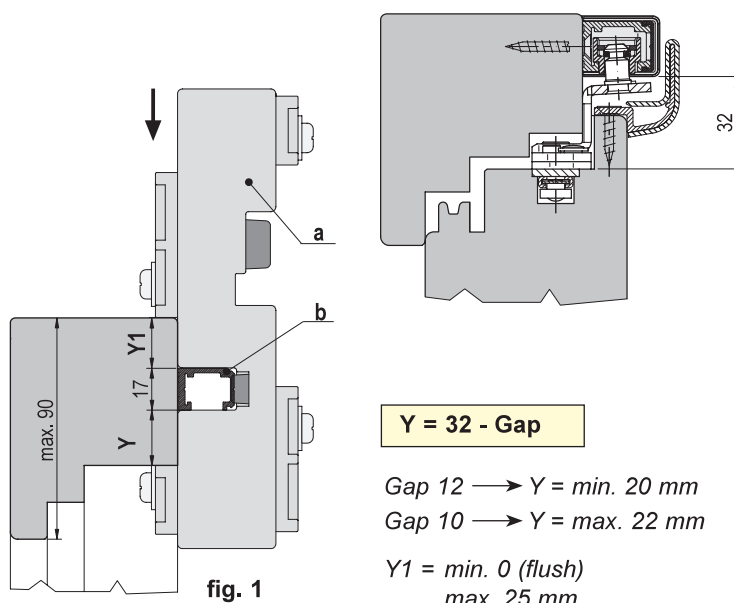

fig. 1
- 1) Adjust the jigs, art. M02030.00.04 (a), according to the Y measure, with reference to the internal rebate (fig. 1); place to lower block on the frame and secure it.